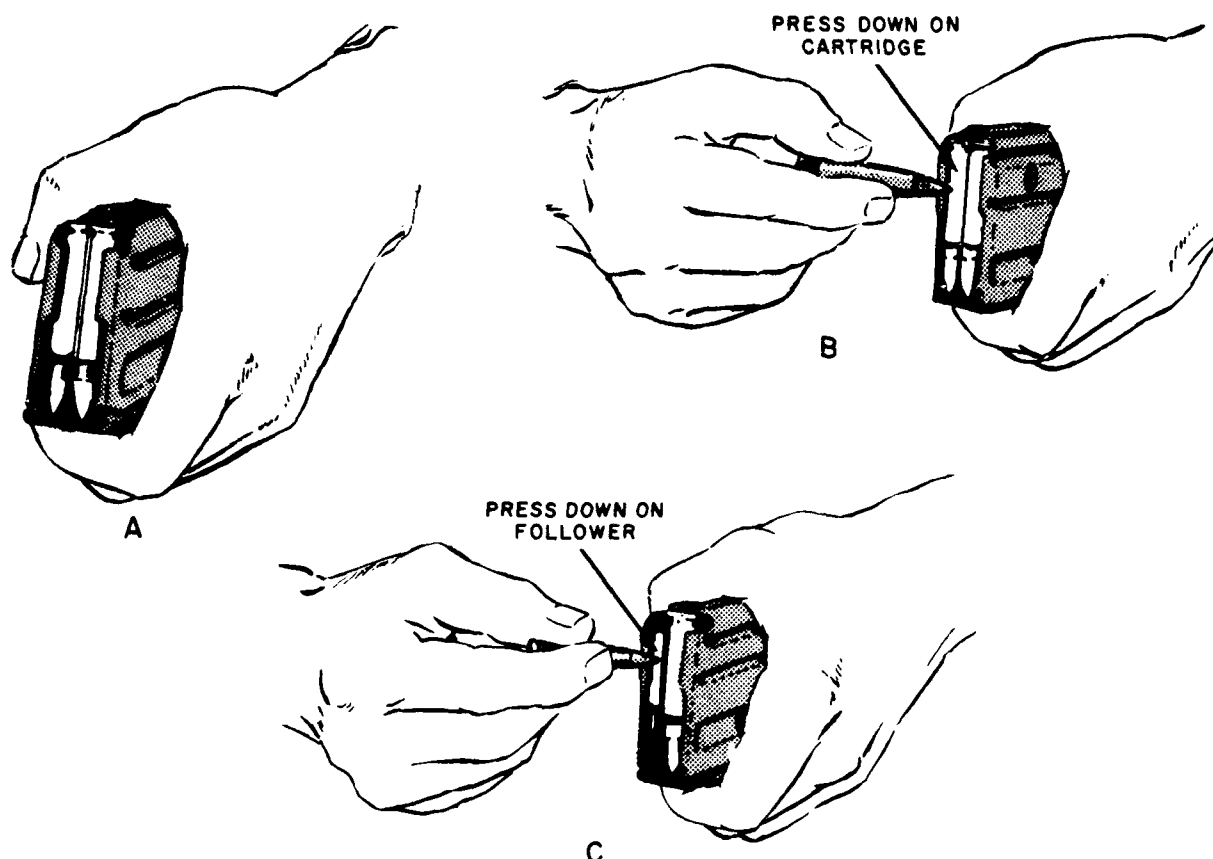

Figure 4-22.—Unloading the magazine with the nose of a cartridge.
1. Hold the magazine in the left hand with the open end away from your body and with the nose of the cartridge down (view A, fig. 4-22).
2. Using the nose of the cartridge, depress the center of the second round in the magazine, allowing the first round to drop out of the magazine (view B, fig. 4-22). Repeat this procedure until you remove all the rounds from the magazine except the last one.
3. To remove the last round, use the nose of the cartridge to depress the follower, allowing the last round to drop out of the magazine (view C, fig. 4-22).